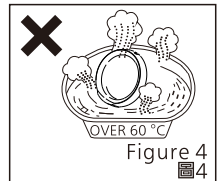

Figure 4
- Never immerse resin parts in hot water over 60 °C. (Figure 4)